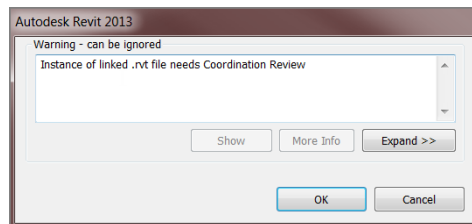

FIGURE 20.11: Coordination alert
5. Open the architectural model. You may see the warning shown in Figure 20.11.